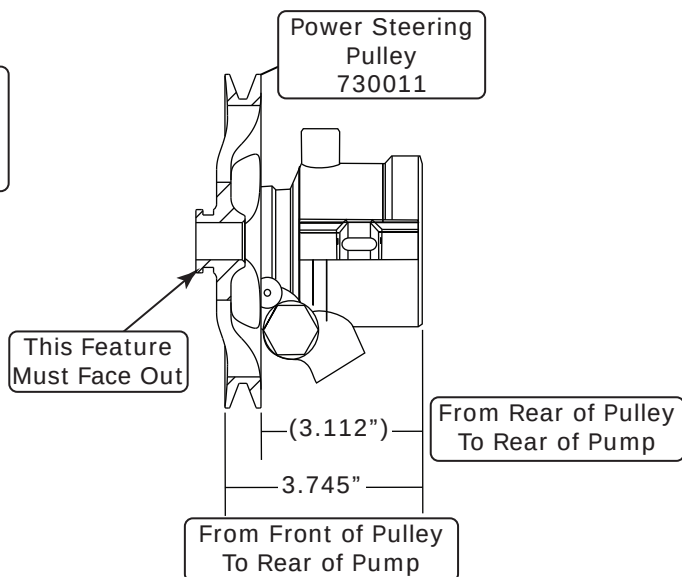

Figure 8
1. On a workbench, using a power steering pump pulley installer, install the pulley onto the power steering pump (See Figure 8, below, and video demonstration at bit.ly/vapulley). Ensure that the pulley is installed to the proper specifications as shown in Figure 8, below.